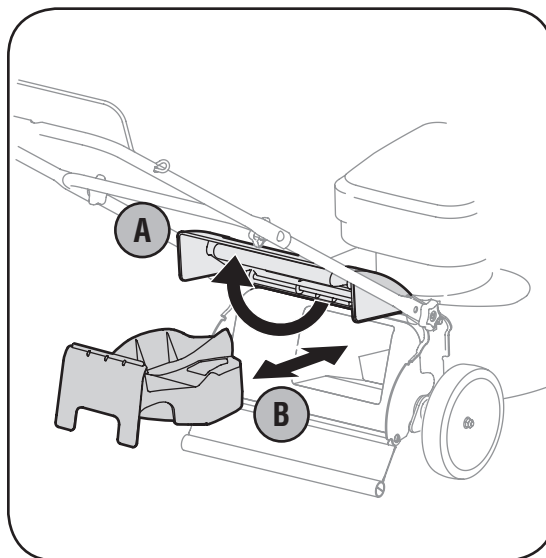

Figure 3-5: Removing (or installing) the rear mulch plug.
- 6. Before attaching the grass catcher, the mulching baffle must be removed. See Figure 3-5.